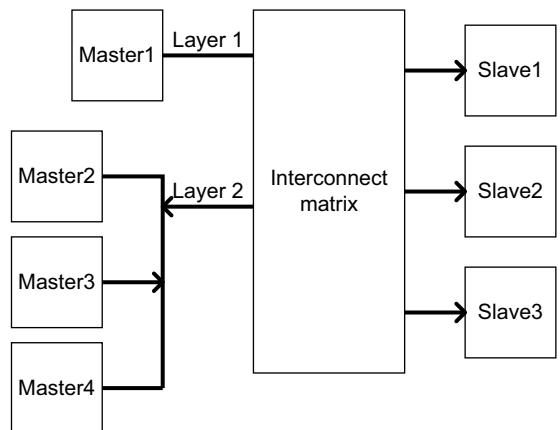

Figure 1-5 Multiple masters on one layer
- In the simplest implementation of a multi-layer system, each master has its own layer. Figure 1-5 shows how you can also build a system where multiple masters share a layer. This is well suited to combine masters that have low-bandwidth requirements or masters, such as the *Test Interface Controller (TIC)*, that have particular characteristics.